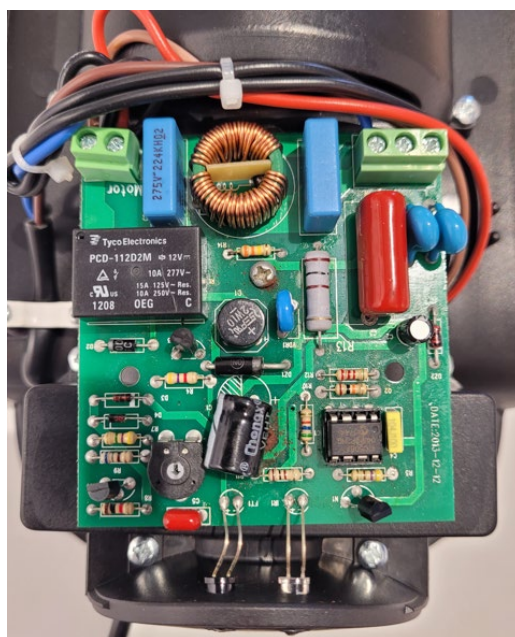

Fig. 2
1. **If the dryer continuously blows cold air** - please contact Airflow Developments Ltd at [info@airflow.com](mailto:info@airflow.com) or Tel +44 (0)1494 525 252 for further assistance.
2. **The dryer runs continuously** – decrease the sensitivity of the activation sensor by turning the white potentiometer on the board located inside the main body of the dryer (see Fig. 2 below) clockwise with a pot adjuster/ small screwdriver. Adjust to suit the level of sensitivity required.